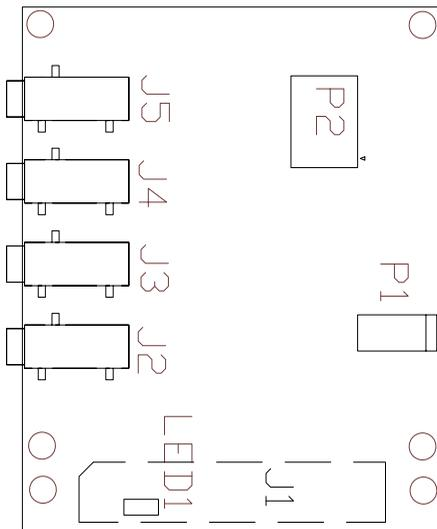

Figure 1-1. LED, Connector and Jumper Locations
The LED, connector, and jumper locations are shown in Figure 1-1.
**i** As shown in Figure 1-1, connector J1 is located on the opposite side of the board. For this reason, J1 is shown with a dashed line.